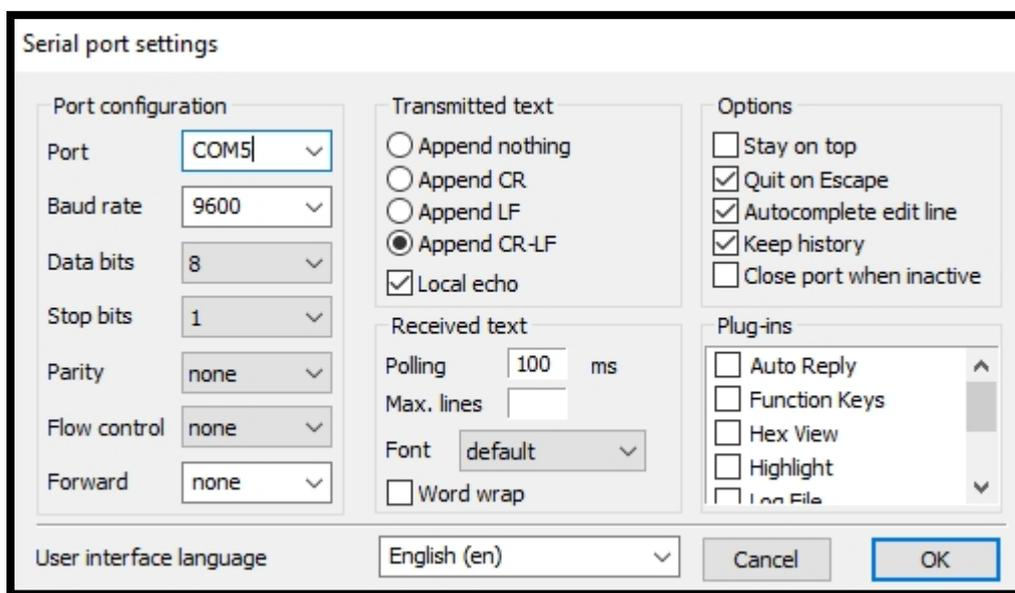

Figure 5: Serial port settings.
2. If you don't have one already install a serial terminal on your computer to be able to configure the SenProbe. This device uses USART serial communication for configuration. For a simple setup we suggest you install and use the termite terminal and use the setting in Fig. 5
5. Your device should be visible in the serial terminal at this point, you just need to set the COM port related to your device. In Fig. 5 the terminal is set to the port COM5 but in your case this will depend on which port you plugged your device into.